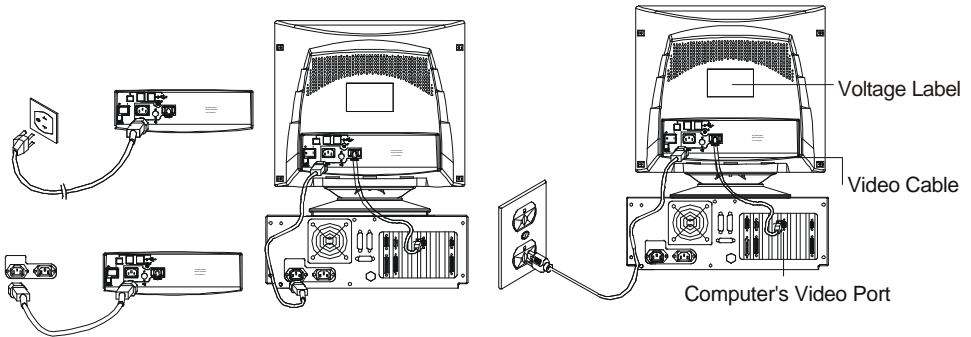

Figure 3 Connecting the Video Cable and Power Cord
2. Tighten the two screws on the cable connector. As Figure 3.
This monitor comes with a power cord. See Figure 3. Plug power cord into a computer's inlet. The three-wire power cord must be provided a safety precaution to ensure proper electrical grounding.